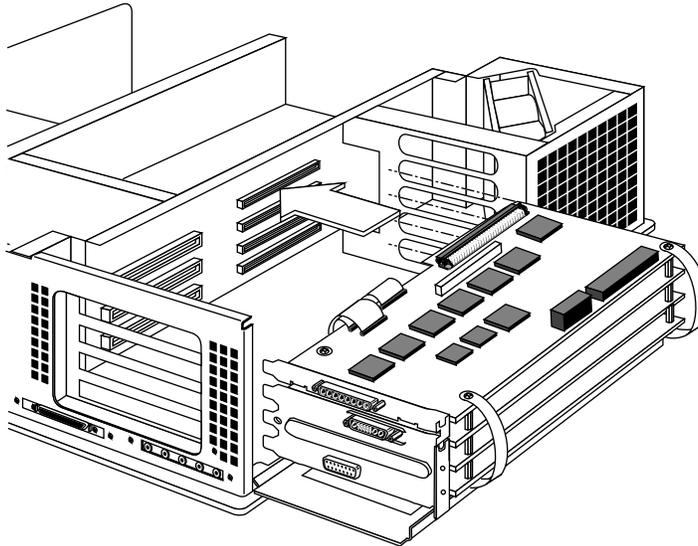

Figure 2-27 Aligning the Board Set With the Chassis
1. Align the board set with the slots on the left side of the chassis (Figure 2-27).